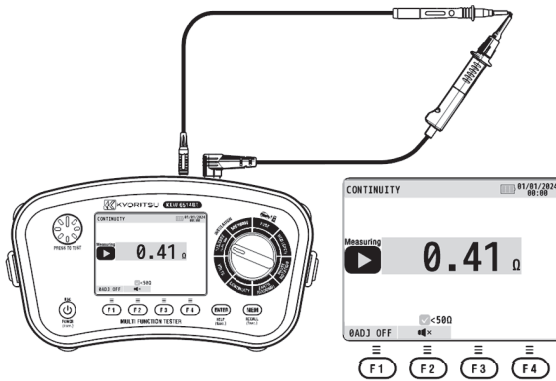

Fig. 10-4
- (3) Firmly contact the ends of test leads (see Fig. 10.4) and then press and lock the test switch. The LCD shows the resistance value of the test leads.